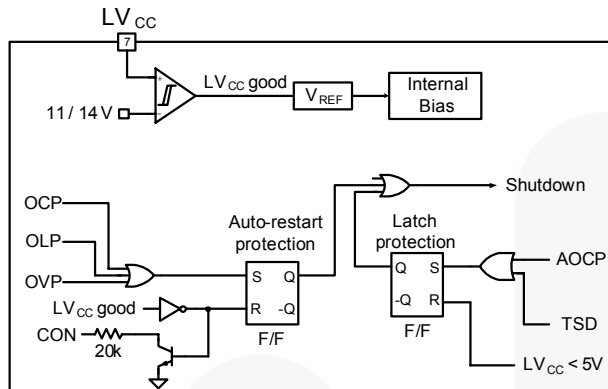

Figure 24. Protection Blocks
5. Protection Circuits: The FAN7621 has several self-protective functions, such as Overload Protection (OLP), Over-Current Protection (OCP), Abnormal Over-Current Protection (AOCP), Over-Voltage Protection (OVP), and Thermal Shutdown (TSD). OLP, OCP, and OVP are auto-restart mode protections; while AOCP and TSD are latch-mode protections, as shown in Figure 24.